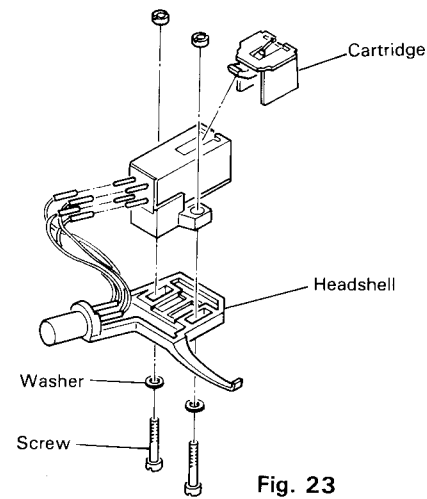

Fig. 23
5-(2) Mounting Cartridge (Type A) (Fig. 23)